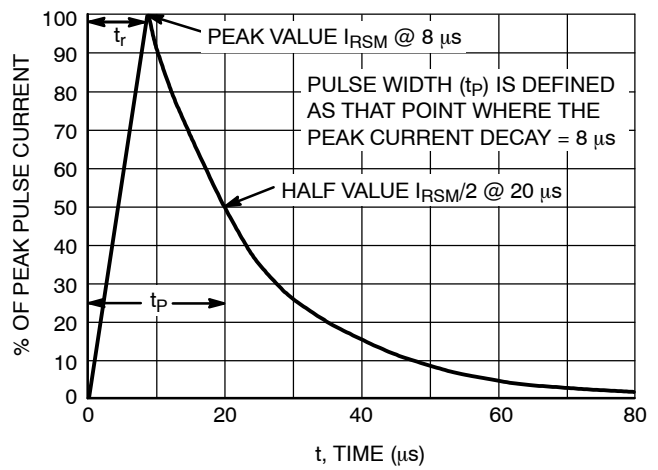

Figure 2. 8 x 20 μs Pulse Waveform
1. Non-repetitive current pulse per Figure 2
- Surge current waveform per Figure 2